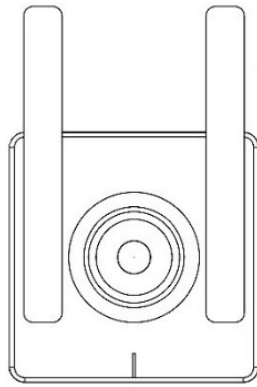

Fig 6
6. Dry fit the (4) adhesive pedestals using the supplied tape strips or masking tape to temporarily hold them in position. (Fig 6)